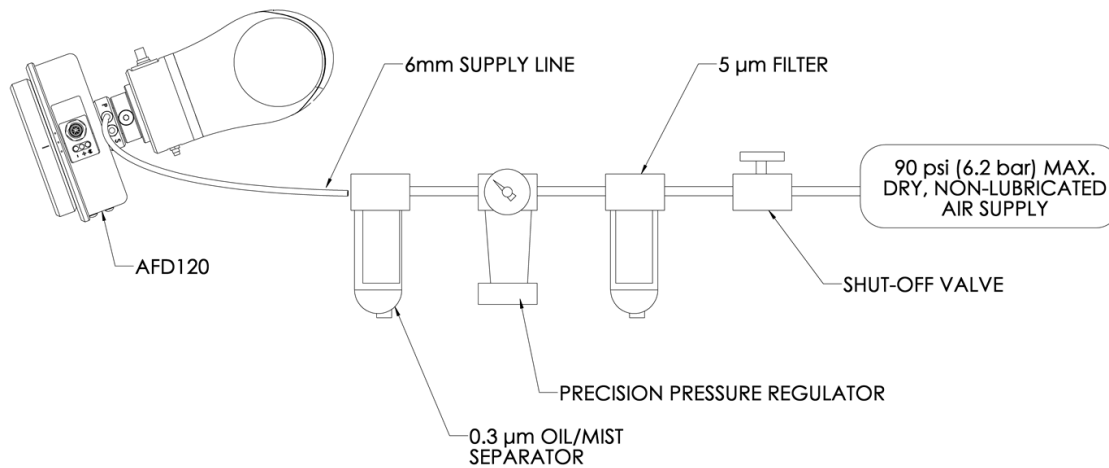

Figure 8: Pneumatic Configuration
-1 or -2 mounting flange is aligned and positioned into the mounting bracket such that the THRU holes are aligned. At that point, the M8x1.25 shoulder bolt should be inserted and threaded into the AFD120 mounting bracket to tighten the assembly as shown in Figure 8. This bolt should be torqued to 40N-m (30ft-lbs).
The pneumatic supply system should be configured as shown in Figure 8.
The AFD120 does not contain an internal purge. An externally supplied purge air flow is required to help keep the inside of the AFD clear of foreign matter. An auxiliary Purge Port on the 120 Series, shown in Figure 8, provides the pneumatic connection for this purge air flow. The port accepts a metric R 1/8 tapered pneumatic fitting. PushCorp can provide fittings for English or metric tubing. Input pressure to the Purge Port may range from 10 PSI to 60 PSI (0.7 – 4.1 bar), with a flow rate of 0.5 to 2.0 SCFM (14 – 56 l/min), depending on the application. The purge air must be dry and non-lubricated; however, it need only be filtered to 20 microns.